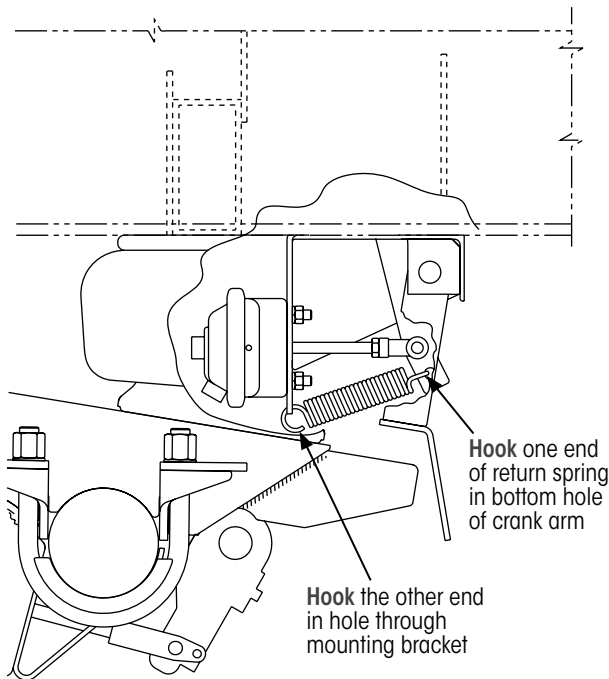

Figure 53: Spring installation details
1. Hook one end of the spring to the mounting bracket (Figure 53).